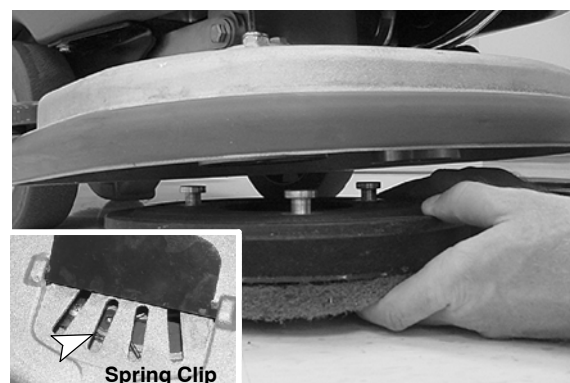

FIG. 8
4. Align the pad driver mounting studs into the motor hub slots and give the pad driver a quick turn to engage spring clip (Figure 8).